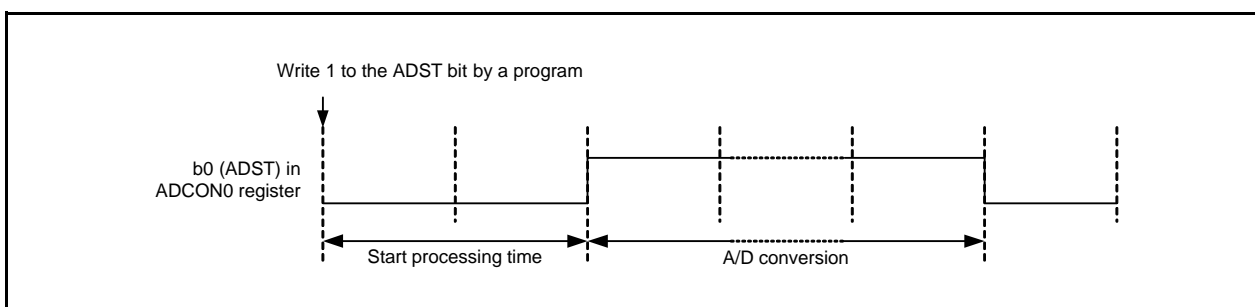

Figure 25.2 ADST Bit Operation
- When 1 is written to the ADST bit by a program, it is set to 1 (A/D conversion starts) after start processing time (refer to **Table 25.5 Number of Cycles for A/D Conversion Items**). Thus, if this bit is read immediately after 1 is written, it may be read as 0 (A/D conversion stops) (refer to Figure 25.2).